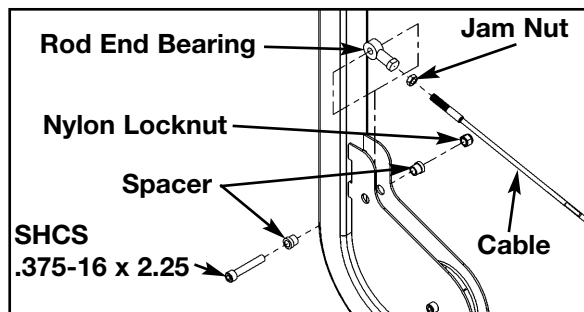

Figure 1
B. Adjust jam nut to remove slack. See Figure 1.